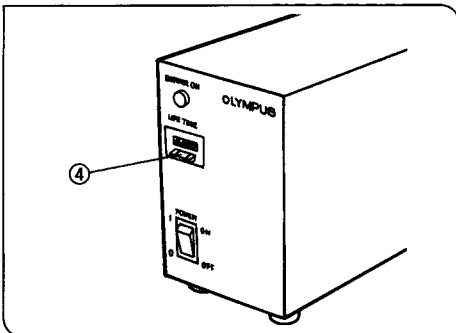

Fig. 16
1. To reset the burner life time counter to "000.0", press the center portion of the reset button (4) on the power supply unit's front panel. (Figs. 16,17)